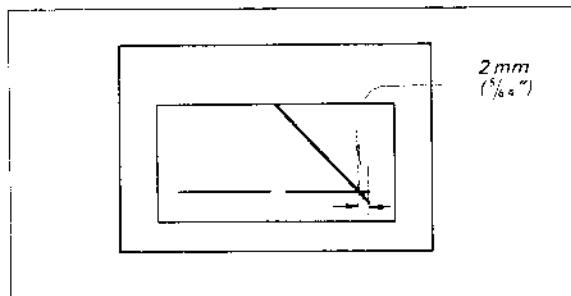

Fig. 3-16. Tuning meter calibration
3. Precisely tune the set to the signal and adjust R324 (RT301) (■) to obtain the meter pointer within 2 mm ($\frac{5}{64}$ "') left of its maximum indication as shown in Fig. 3-16.